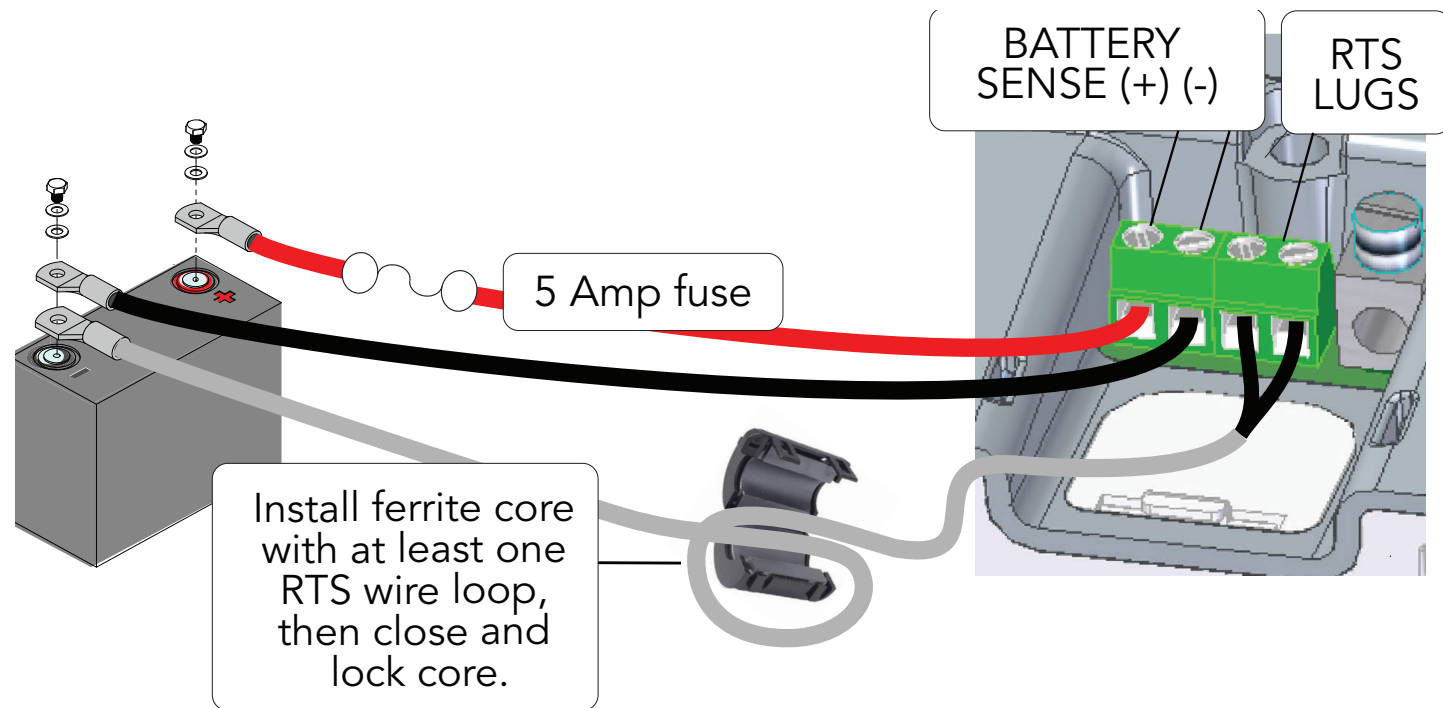

Figure 3-3. Accessory installation detail
(3) ferrite chokes are included for individual installations around an RTS cable, PV (+) and (-) cables (in one choke) and Ethernet cable. See Figures 3-3 and 3-4 for installation details conforming to FCC Class B EMI requirements. Each core must be installed as close to the GenStar MPPT as possible.
Accessory Wiring - refer to schematic in Figure 3.3 below when following 3.4.1 and 3.4.2 on next pages.
3.4.1 Battery Voltage Sense Wires - refer to Figure 3-3 above
The two sense wires, can range in size from 1.0 to 0.25 mm² (16 to 24 AWG), and should be cut to length as required to connect the battery to the voltage sense terminals. The 2-position terminal - to the left of (beyond the RTS terminals) the Load (+) terminal (see Figures 3-3 and 3-4) is used for the battery sense connections. A twisted pair cable is recommended but not required. Use UL rated 300 Volt conductors. The voltage sense wires may be pulled through conduit with the power conductors.
3.4.2 Remote Temperature Sensor With Ferrite Choke - refer to Figure 3-3 above
Connect the RTS to the 2-position terminal located immediately to the left of the Load (+) terminal (see Figures 3-3 and 3-4).